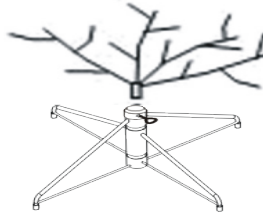

Fig. 4
5. Connect light set plug from section (A) and (B) into outlet of extension cord (E1) mounted in section (B). Then connect end connector of the light set from section (B) with another light set plug from section (B) and connect light set plugs from section (C) into extension cord (E2) hanging down from section (B).(See Fig.4,5,6)
4. Insert the tree into the stand and adjust accordingly. The tree should be straight and balanced correctly. (See Fig.4)